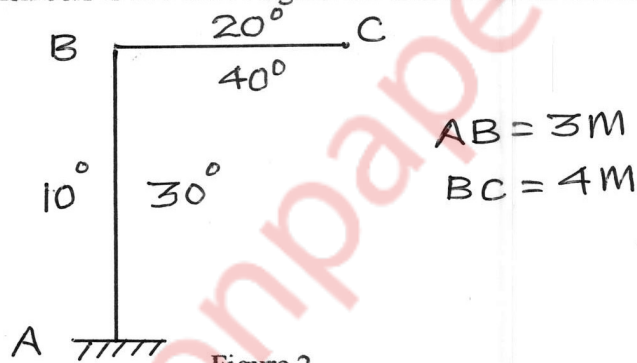

Figure 2
- b) A rigid frame shown in Figure 2 is subjected to temperature variations. Determine vertical deflection at point 'C'. Take  $\alpha = 12 \times 10^{-6} / ^\circ\text{C}$ . Depth of all members is 600 mm. Neglect the effect of axial forces. 05